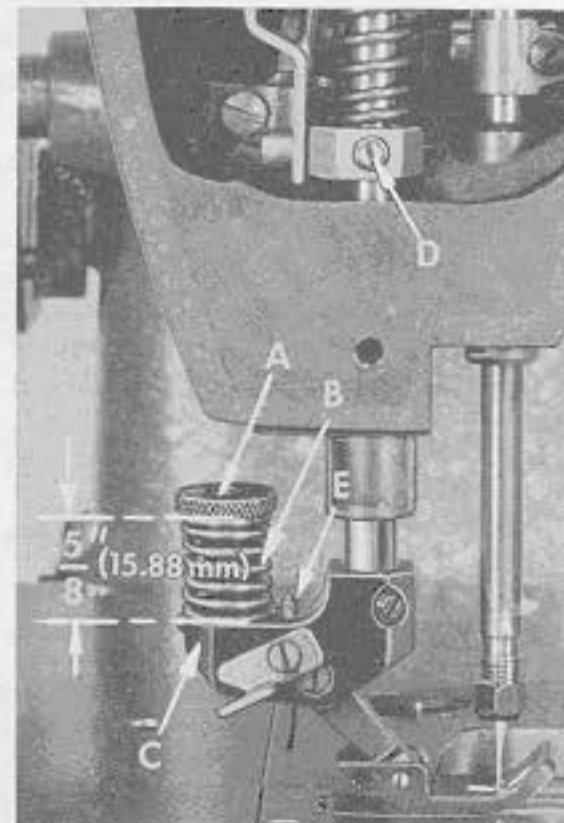

Fig. 15
As a preliminary setting, adjust the spring regulator nut (A, Fig. 15) on the feeding presser foot so the distance from the top of the spring (B) to the yoke (C) is $\frac{5}{8}$ inch (15.88 mm), (see Fig. 15). Assemble the feeding presser foot to presser bar. With presser foot resting on throat plate and feed dog down, press down on spring regulator nut (A, Fig. 15) until the marks on the presser foot bottom line up with the centerline of the needle, while keeping the needle in the center of the needle slot, tighten set screw (D) securing the presser bar guide to the presser bar, making sure that the stop screw in the presser bar guide is resting on the bed casting.
When the presser foot is lifted off the bare throat plate, the foot should move back only slightly, less than 1/64 inch (.40mm). The stop screw (E, Fig. 15) on the yoke, which is set at the factory, can be readjusted if necessary, should this dimension become changed.